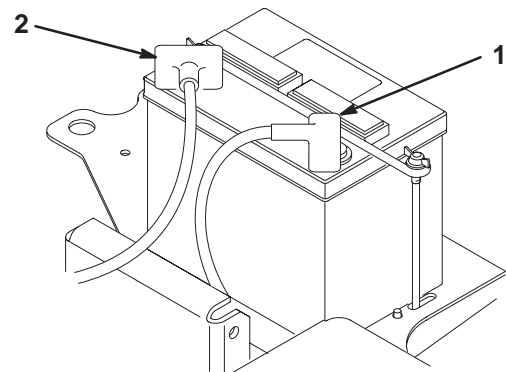

Figure 3
- Connect the positive battery cable (red) from the starter solenoid to the positive post (+) of the battery (Fig. 3). Secure it with a wrench and coat the terminal with petroleum jelly. Make sure the cable will clear the seat, in the rear-most position, which could cause wear or damage to the cable.